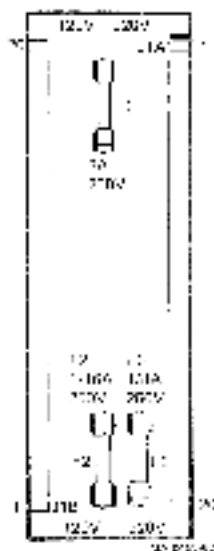

Figure 4-18 Voltage Select Card
If you are installing new power supply, remove top cover from power supply enclosure and observe position of voltage select card (Figure 4-18). Position of card must correspond to input voltage as defined on transport's identification plate. Ends of card are stenciled with "120 V" and "220 V" and two indicating arrows. Make sure card is installed to match input voltage.
2. Make sure voltage select module (Figure 4-18) is installed in correct position. Then replace cover.